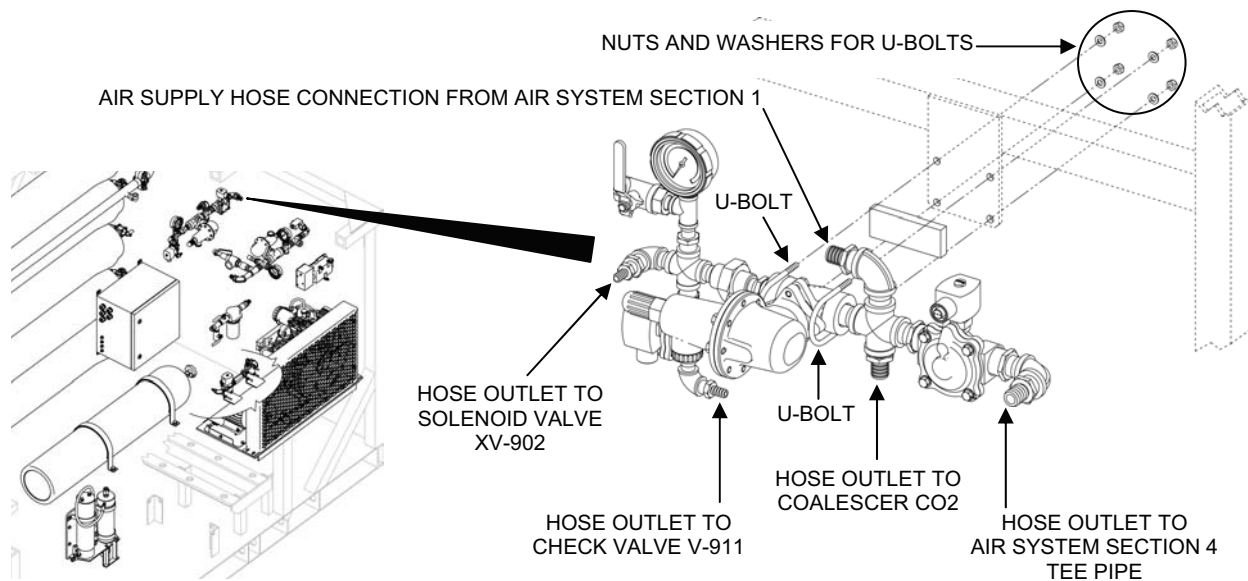

Figure 2. Air System Section 3 Assembly.
2. Remove the air system section 3 assembly as follows (see Figure 2):
3. Install the new Air System Section 3 assembly onto the TWPS as follows (see Figure 2):